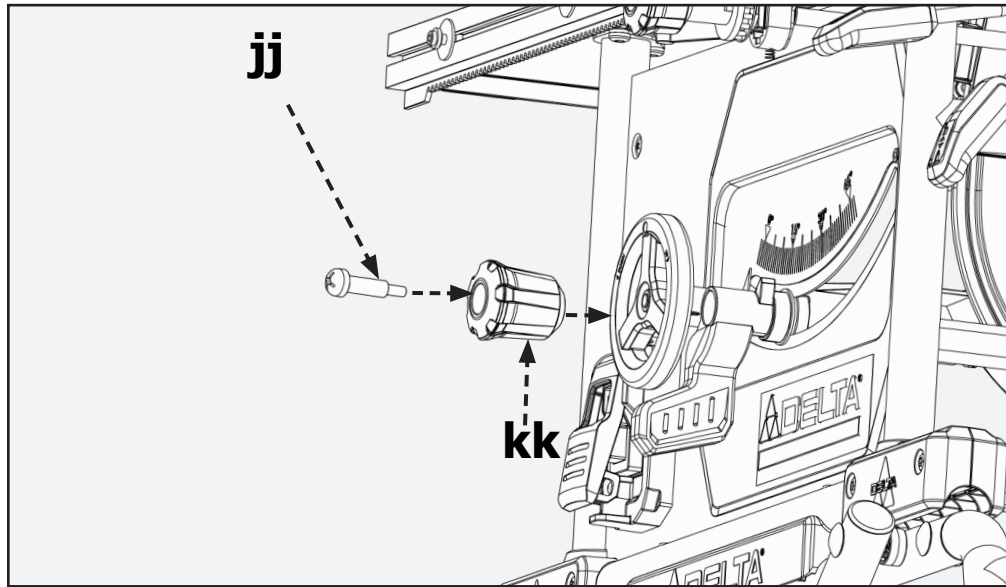
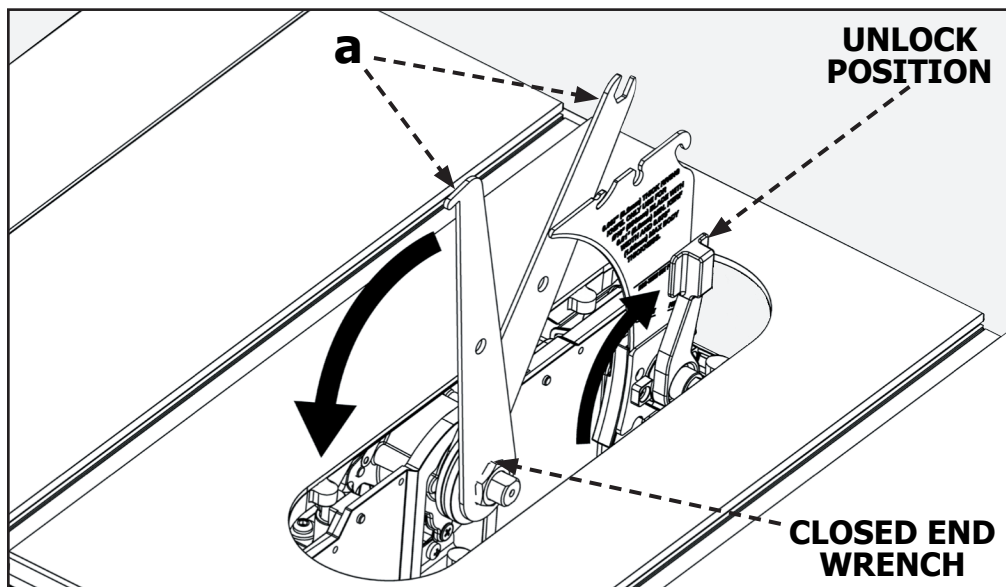

FIGURE 1
FIGURE 2
1. Insert wheel handle shoulder screw (jj) into height adjustment wheel knob (kk) as shown in Figure 1.
After installing height adjustment knob as shown in Figure 1, raise motor/arbor assembly to the upper most position to provide easy access to riving knife lock lever and arbor assembly. Ensure riving knife lock lever is in unlock position. See Figure 2. Detach the on-board wrenches located on the right side of the saw by loosening and removing M8 wing nut. Place the open-ended wrench (a) on the spindle shoulder between the arbor flange and inner flange. Place the closed end wrench (a) over the arbor nut. Holding the spindle shaft in place, loosen and remove the arbor nut and arbor flange. See Figure 2. Only use 10 in. blades designed for wood cutting. **NOTE:** Use only 10" (254 mm) diameter blades with 5/8" (16 mm) arbor holes, rated at 5,000 rpm or higher, 0.10" (2.6 mm) min. kerf width and 0.073" (1.85 mm) max body thickness. Only use 10 in. blades designed for woodcutting. Use only a saw blade diameter in accordance with the markings on the saw.